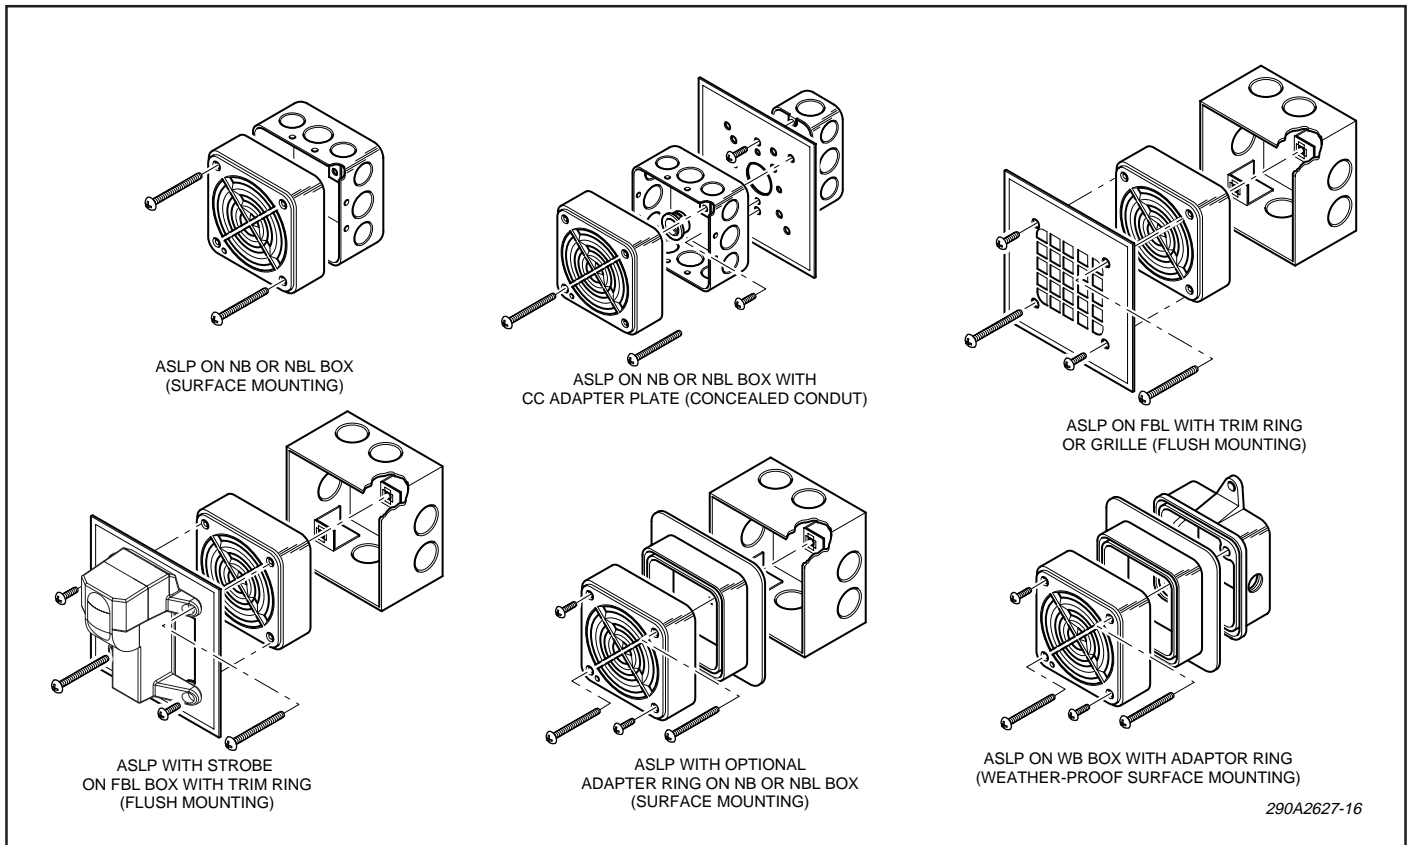

Figure 4. Mounting Arrangements for Model ASLP.
C. Mounting Arrangements (see figure 4).